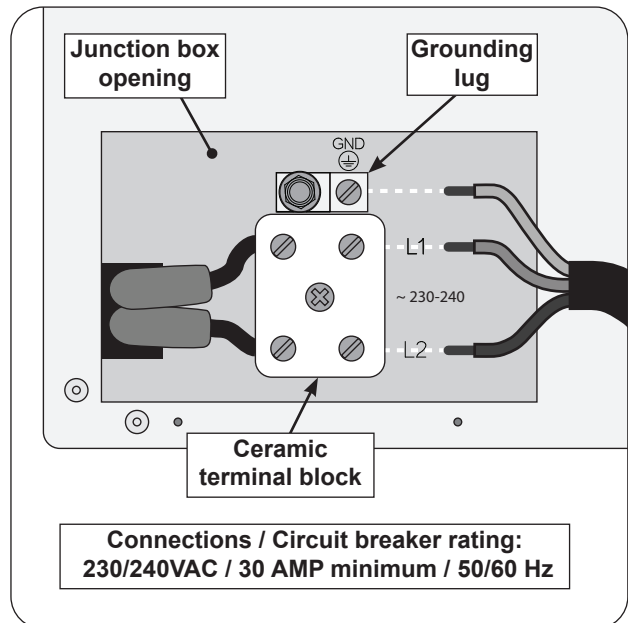

Fig. 26-2 Wire connection diagram
3. Connect the wires to the ceramic terminal block. Reference the wiring information below and Fig. 26-2.